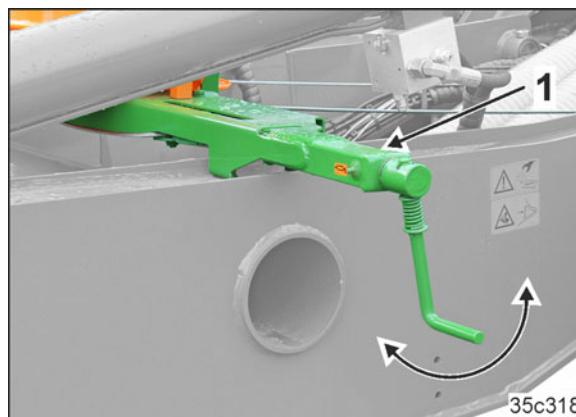

Fig. 129
2. Apply the implement's parking brake (Fig. 129/1).